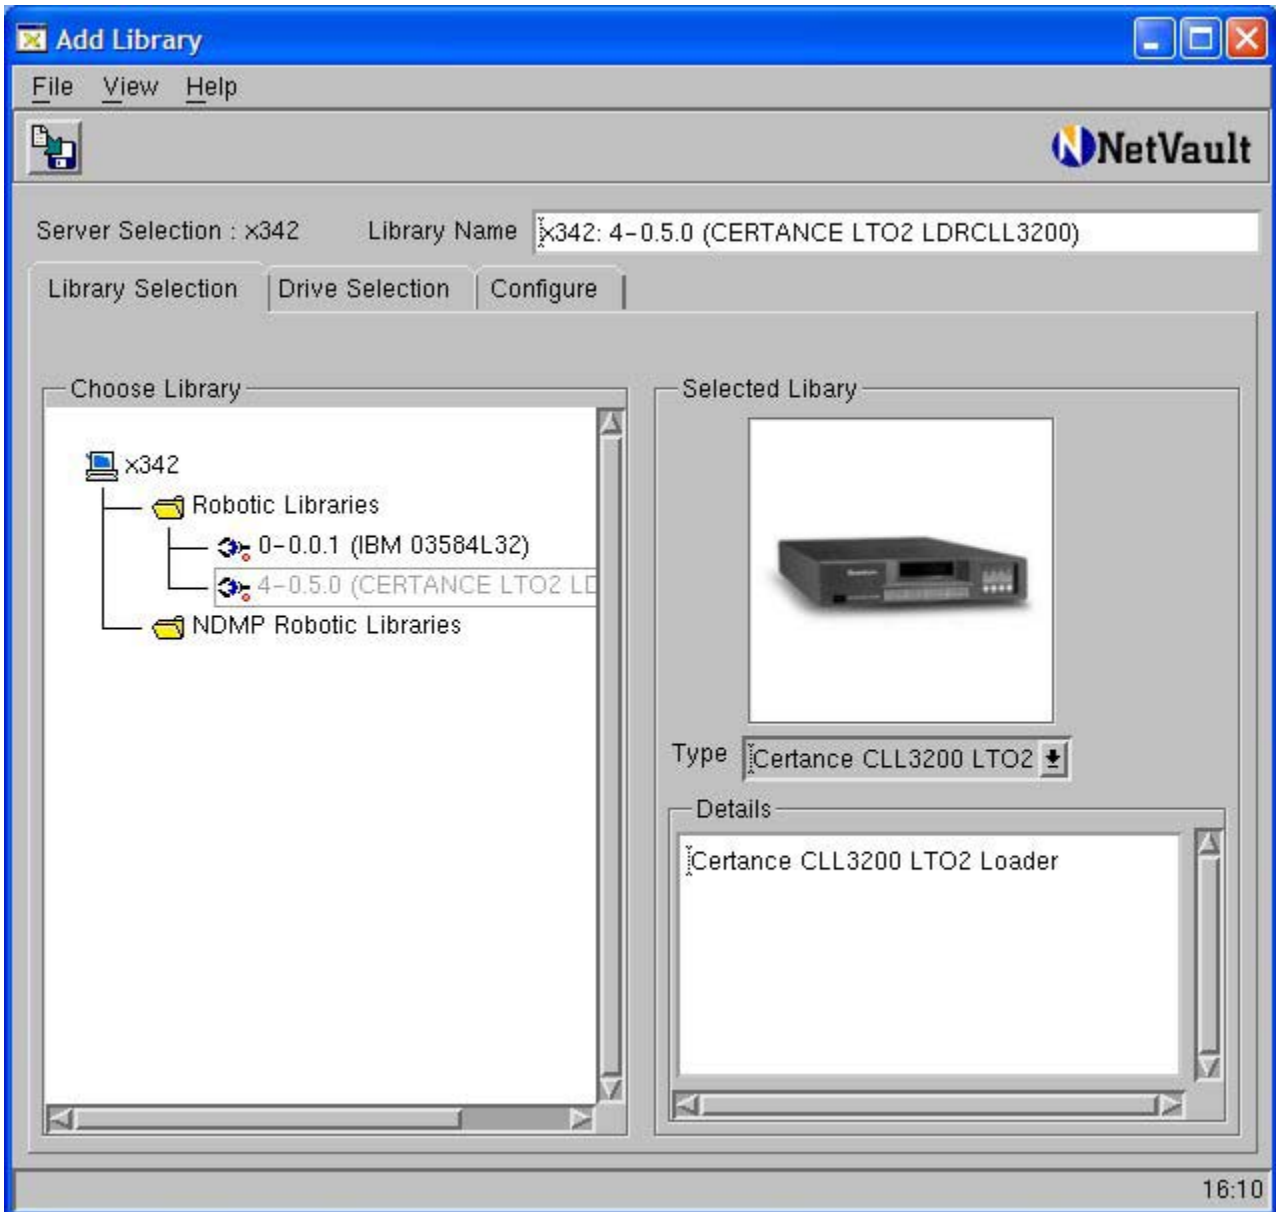

Figure 1. Library Addition Within NetVault
- ✓ Select Library arm under Library Selection (Refer to Figure 1) and verify the correct device is displayed in the Selected Library area on the right.